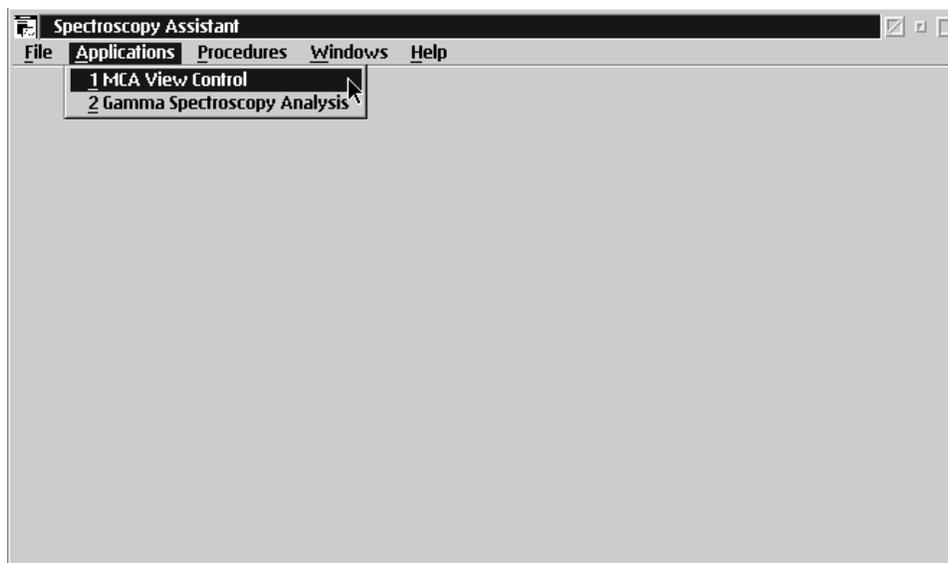

Figure 2. Window for opening “MCA View Control” and “GSA” applications from within “Spectroscopy Assistant.”
3. Open the “MCA View Control” program using the Applications menu as shown in Figure 2.